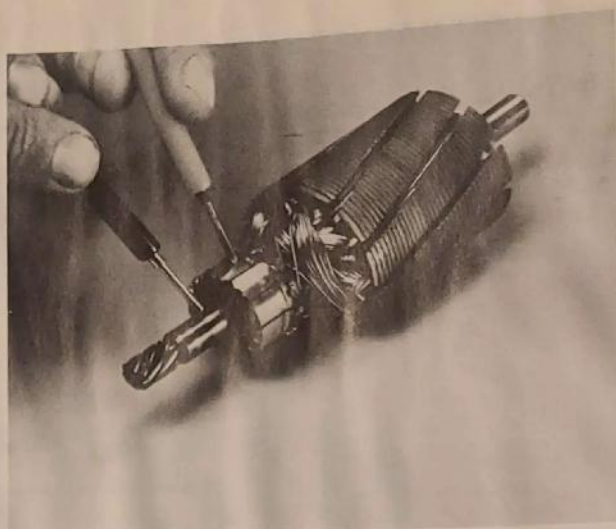

Fig. 15. Test for Ground
4. Test armature for ground. Use self-powered test lamp or ohmmeter. Hold one lead against shaft. Move other lead from bar to bar on commutator (fig. 15). If continuity is indicated, armature is grounded. Obtain replacement.